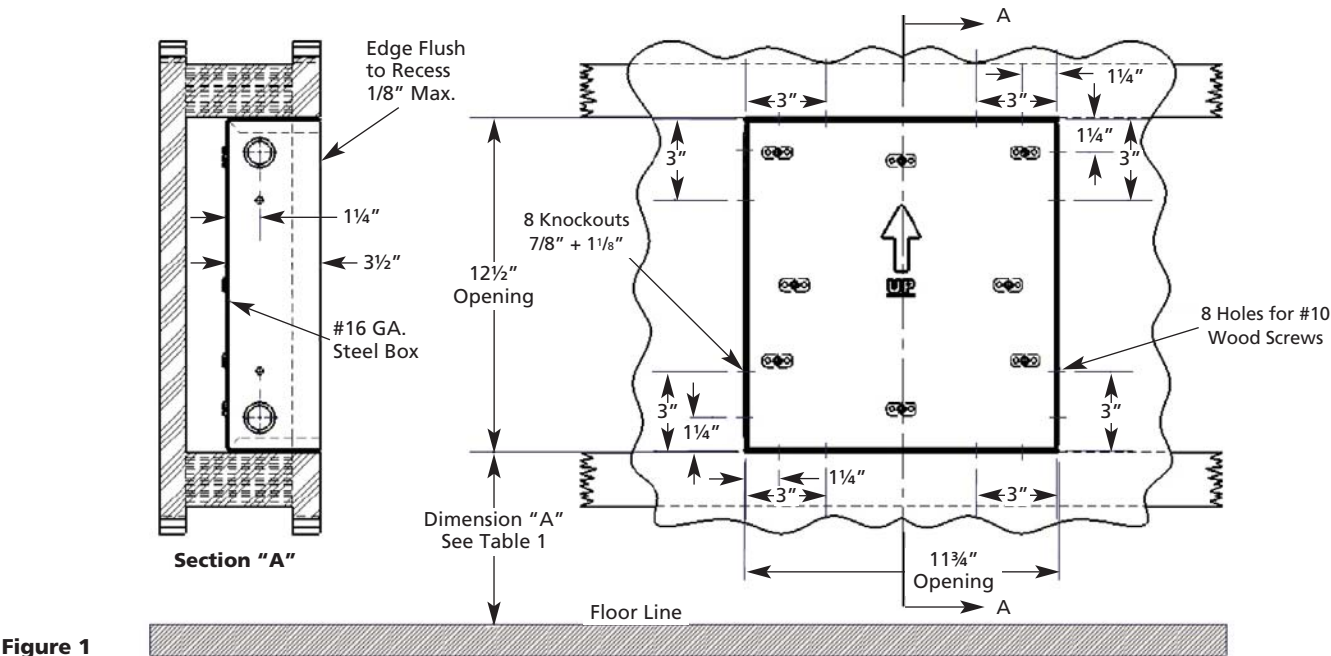

Figure 1
c. To mount the wall box, frame the opening in the wall per Figure 1.
b. Use the security Allen wrench supplied, to remove the (2) cover mounting screws. Remove the cover from the dryer base assembly.